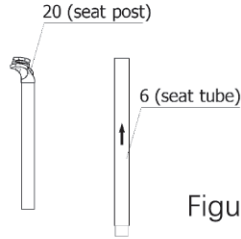

Figure 9.
a. Make sure that you have already take Part 20 out from Part 6, as shown in Figure 9.